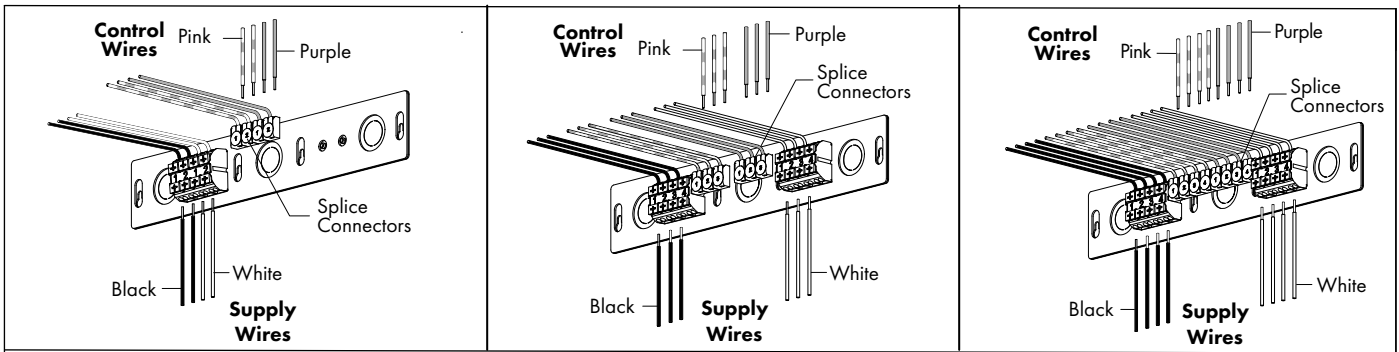

FIG 7.2 Attach Supply & Control Wires
2. Make wire connections noting individual lamp circuit numbers – FIG 7.2 & 7.4.